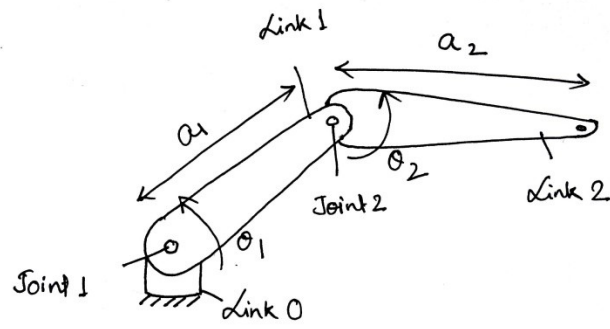

Fig.2: 2-DOF articulated robot arm
10. In a 2-DOF articulated robot arm as shown in Fig.2, find the link-joint parameters and formulate the transformation matrix in symbolic form. If the transformation matrix is given in numerical form as shown below and length of each link a_1 and a_2 is 1m, calculate the values of θ_1 and θ_2 for given location.